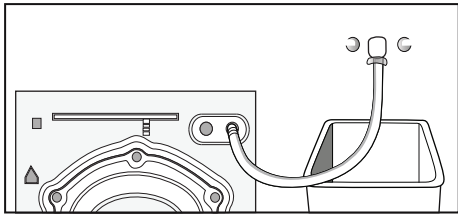

Fig7
**1:** Connect the water inlet hose, the angled connection attaches to the water inlet on the back of the washing machine. (Fig 7)